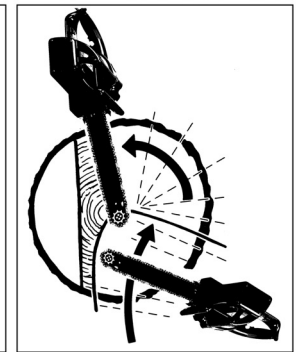

Fig. 10D
2. When diameter of wood being cut is greater than the bar length, make 2 cuts as shown (Fig. 10D).